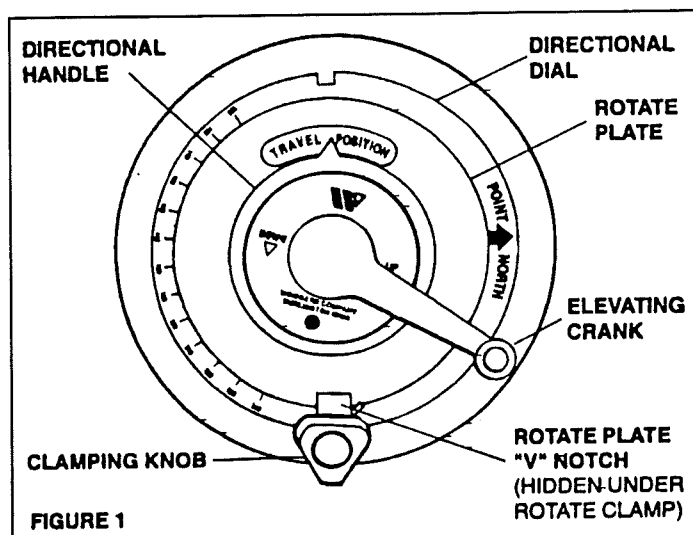

FIGURE 1
STEP 2: Loosen the clamping knob. Figure 1.
STEP 3: Rotate directional dial (Figure 1) until the arrow is pointing North.